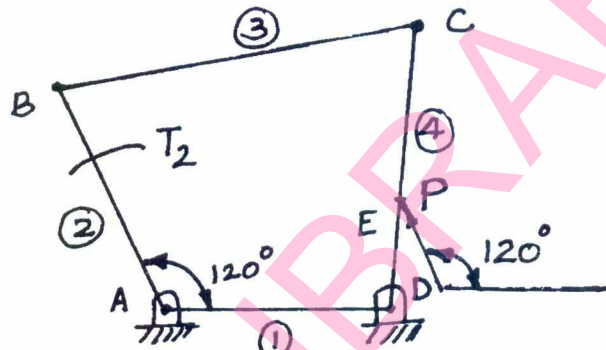

Fig.Q1(b)
- b. A four bar mechanism shown in Fig.Q1(b) is acted upon by a force $P = 100 \sqrt{120} \text{ N}$ on link CD. The dimensions of the various links are $AB = 40 \text{ mm}$, $BC = 60 \text{ mm}$, $CD = 50 \text{ mm}$, $DA = 30 \text{ mm}$ and $DE = 20 \text{ mm}$. Determine the magnitude and direction of input torque T_2 on link AB for the static equilibrium of the mechanism.